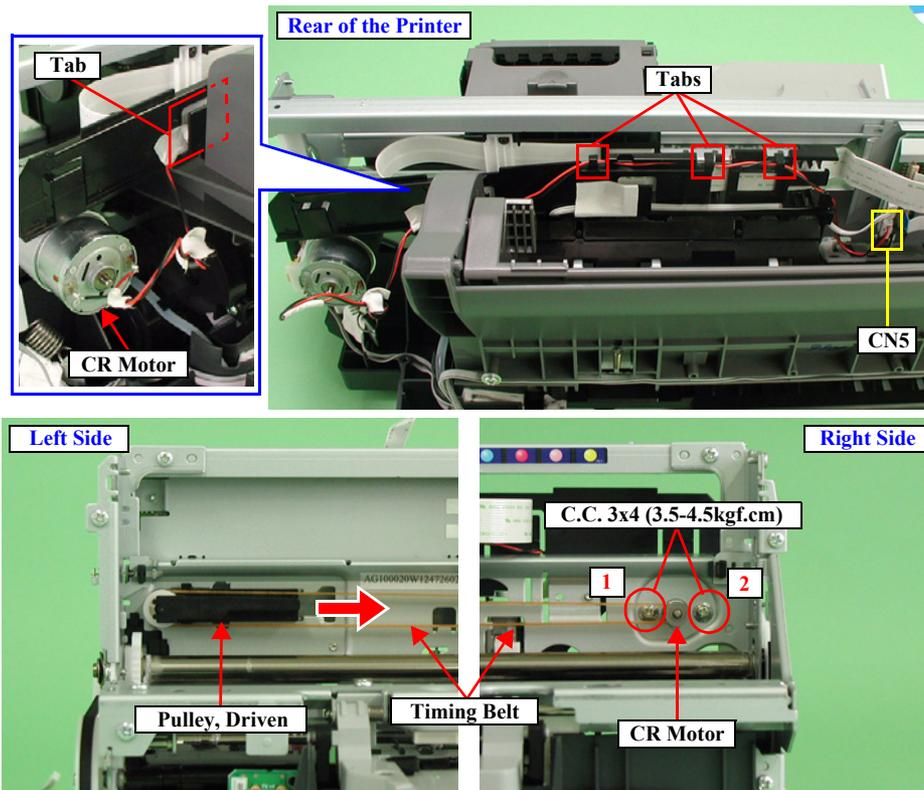

Figure 2-11. CR Motor Removal
- Tighten the two screws to secure the CR Motor in the order shown in Figure2-11.